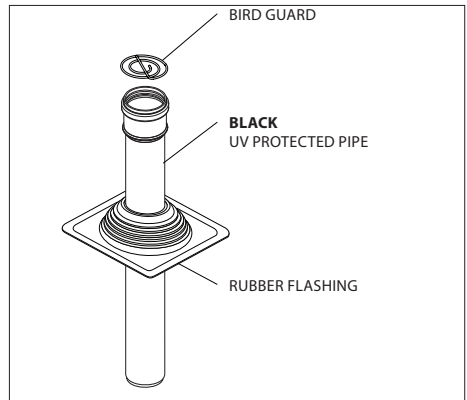

Figure 15- Vertical Pipe Termination
Vertical single pipe (Fig.15)
2. Attach Flashing to roof. (Fig.15)